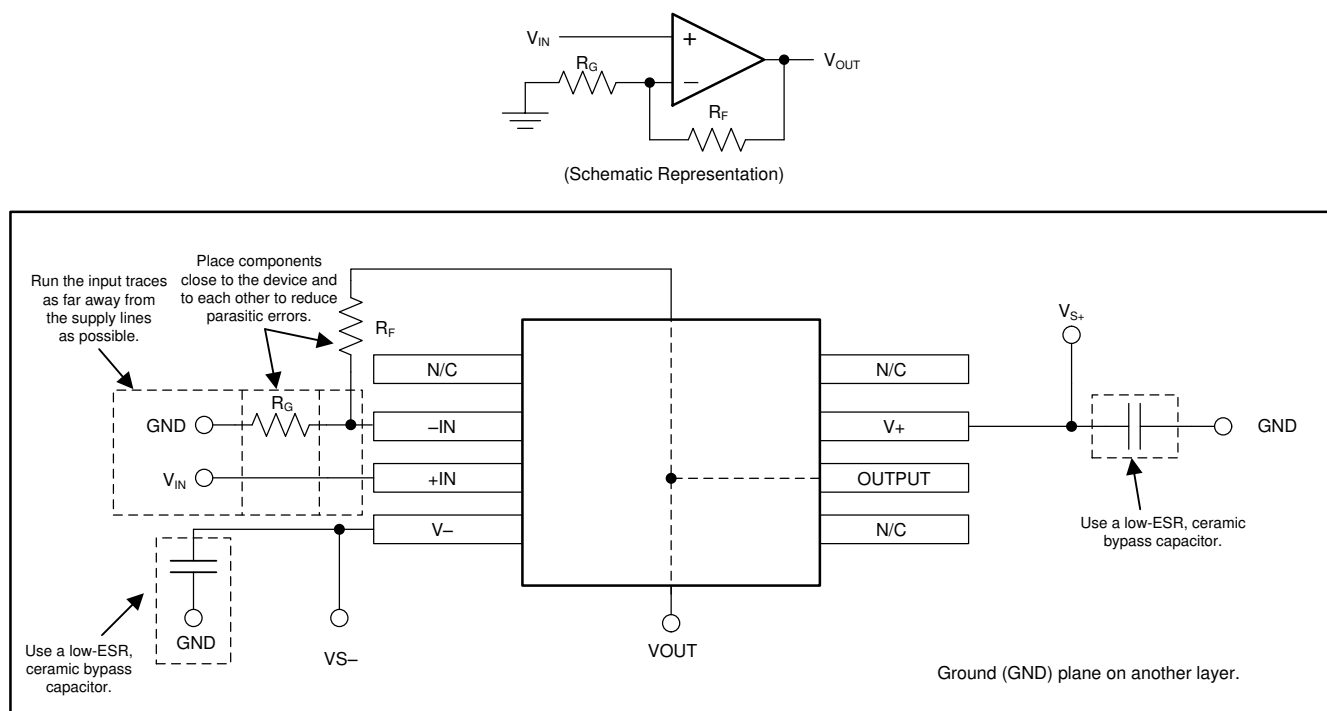

Figure 7-6. Operational Amplifier Board Layout for Noninverting Configuration
- Place the external components as close to the device as possible. Keep R_F and R_G close to the inverting input to minimize parasitic capacitance, as shown in Figure 7-6.